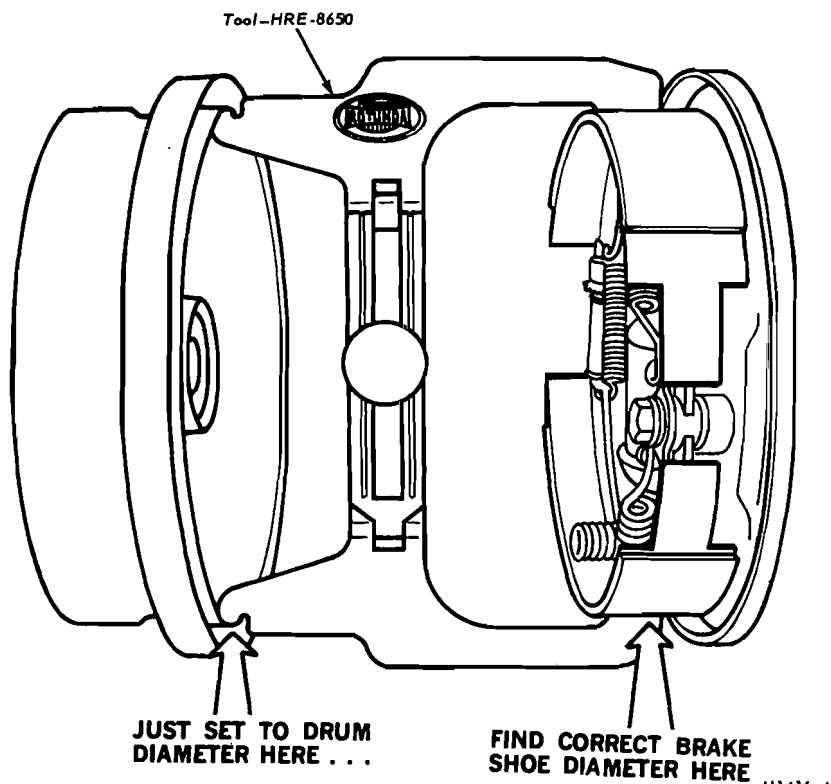

FIG. 4—Adjusting Brake Shoes Using Tool HRE-8650
1. Use Rotunda Tool HRE 8650, (Fig. 4) to determine the inside diameter of the drum braking surface.
2. Reverse the tool as shown in Fig. 4 and adjust the brake shoe diameter to fit the gauge. Hold the automatic adjusting lever out of engagement while rotating the adjusting